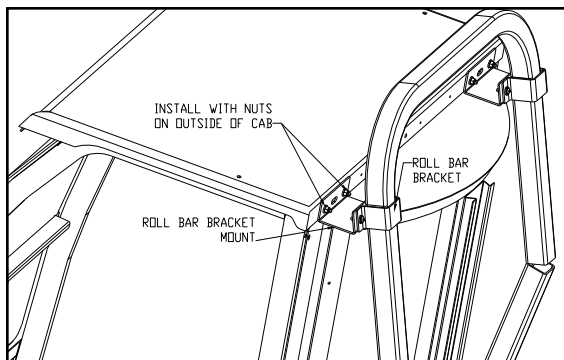

Fig. 11.2 Roof (viewed from the back)
11.2 Per figure 11.2, install two roll bar bracket mounts to the holes in the back of the roof with two 5/16-18 x 1" long button head bolts, four steel washers, and two nylon lock nuts per mount. **Note that the four bolts should have the bolt head on the inside of the cab, so as not to interfere with the soft sided rear curtain.**
11.3 Install two roll bar brackets with two 5/16-18 x 1" long button head bolts, four steel washers, and two nylon lock nuts per bracket, as shown in figure 11.2.